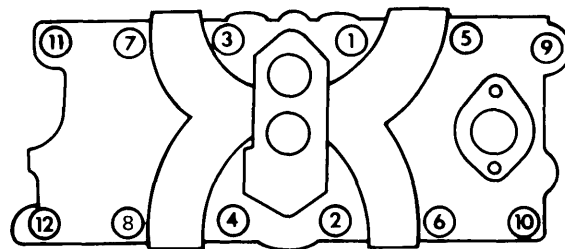

Fig. 1 Intake Manifold Tightening Sequence
2) Position intake manifold on engine, inspect seals for correct positioning and install manifold attaching bolts. Tighten bolts one through four (see Fig. 1) to 25 ft. lbs. in sequence shown in illustration. Tighten same four bolts to 35 ft. lbs. in sequence shown in illustration. Now tighten remaining bolts to 35 ft. lbs. in sequence shown in illustration.